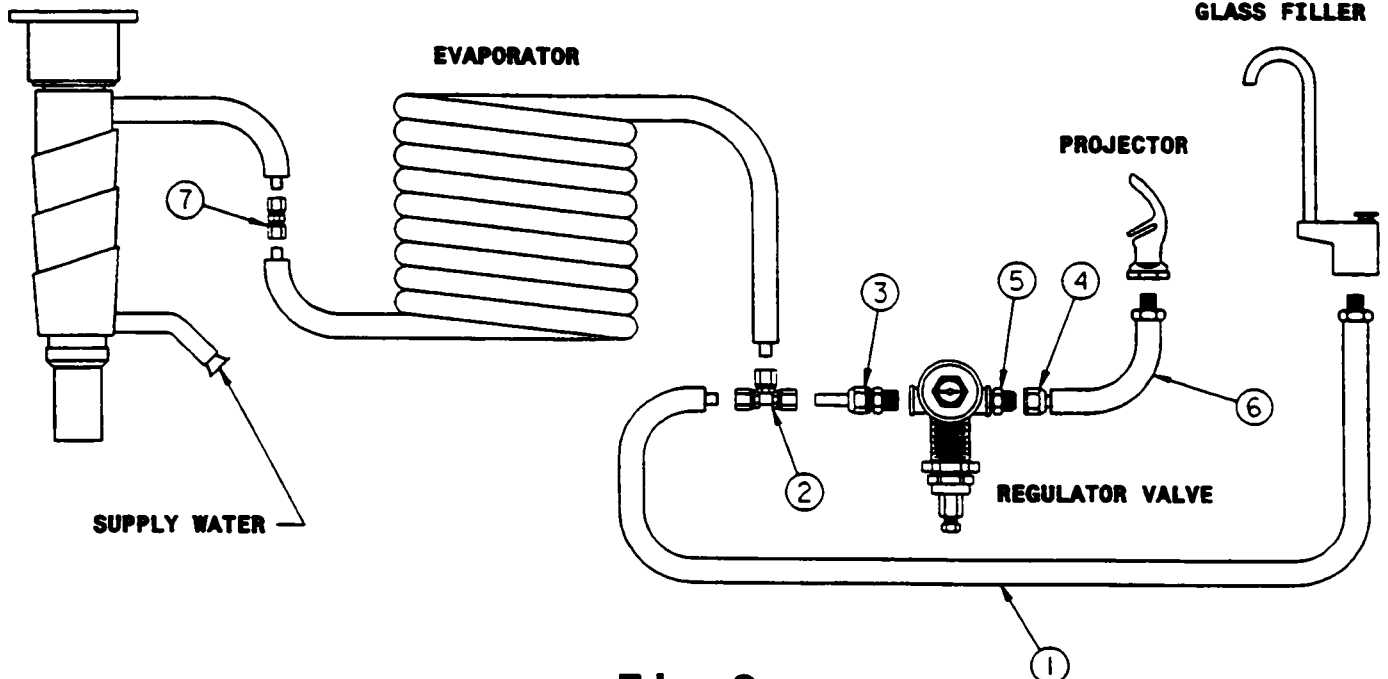

Fig. 2
8. Connect tubing from precooler directly to chiller inlet using the 3/8 x 5/16 reducing union provided with kit (see item 7, fig. 2).
9. Remove 5/16 flare fitting from regulator/valve inlet. Replace it with 3/8" tubing adaptor assembly provided (see item 3, fig.2).
10. Attach compression tee (item 2, fig.2) to tubing adaptor assembly. Point side outlet of tee toward the back of the cooler.
12. Connect glass filler service line (item 1, fig.2) provided with kit, to remaining outlet of tee. Form tubing as required to make glass filler connections at the right rear of receptor.
13. Install connector (item 5, fig.2) on outlet side of regulator/valve.
14. Connect projector service line (item 6, fig.2) to connector (item 5, fig.2).
IMPORTANT: Your installation should now resemble fig. 2.
18. Verify that all connections and water flow routing are as shown in fig.2.